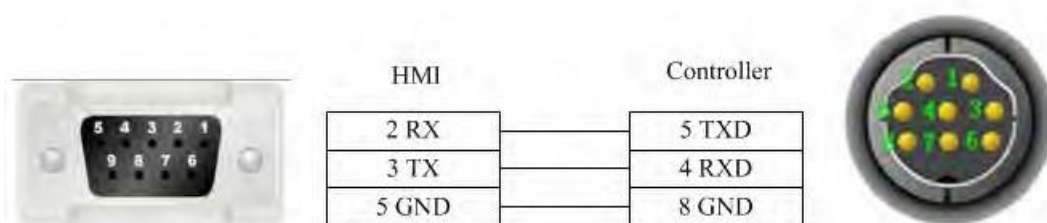

Fig. 19
③After the “Decompile Success!” dialog box appears, click “OK” to complete the decompiling, as shown in Fig. 19.